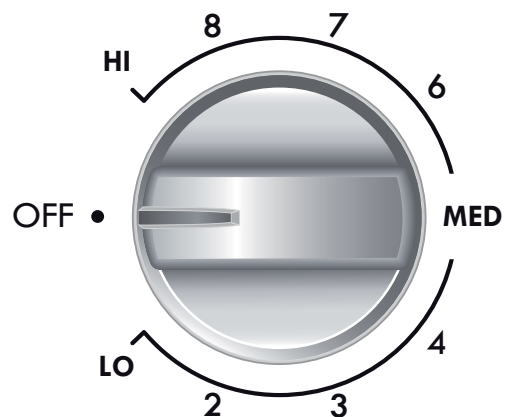

Figure 4
2. Push in and turn the surface control knob in either direction to the desired setting (Figure 4). Turn the knob to adjust the setting if desired. Start most cooking operations on a higher setting and then turn to a lower setting to finish cooking. Each surface element provides a constant amount of heat at each setting. A glowing red surface heating area extending beyond the bottom edge of the cookware indicates the cookware is **too small** for the surface heating area.